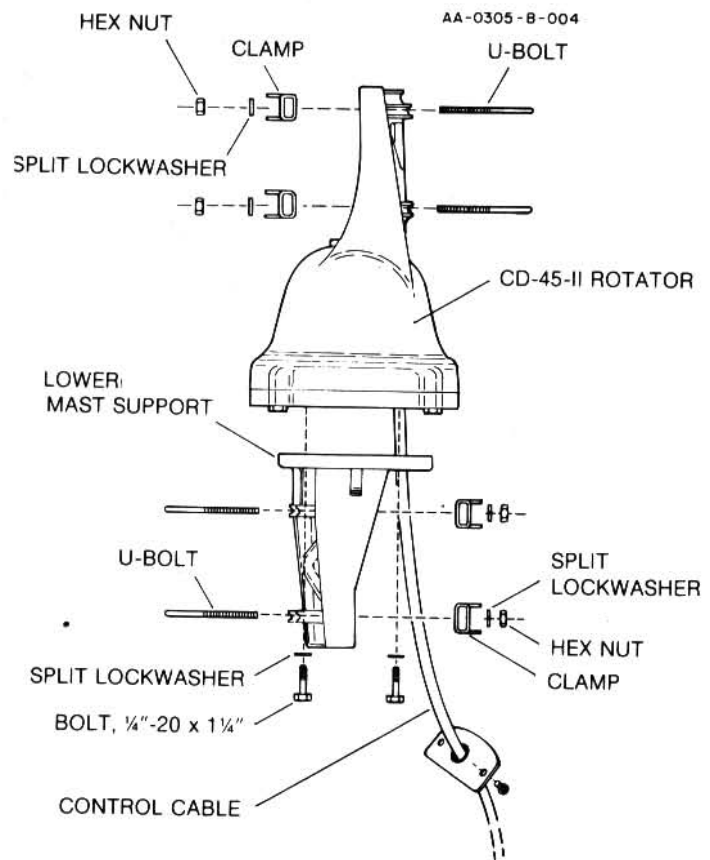

Figure 5
1. Mount the rotator to the lower mast support to the mast. (See Figures 5 & 6.)
2. Attach one end of the control cable to the rotator terminals. Use the same sequence as used on the pre-installation check. The cover and grommet must be slipped over the cable prior to attaching it to the terminals on the rotator. (See Figure 5.)